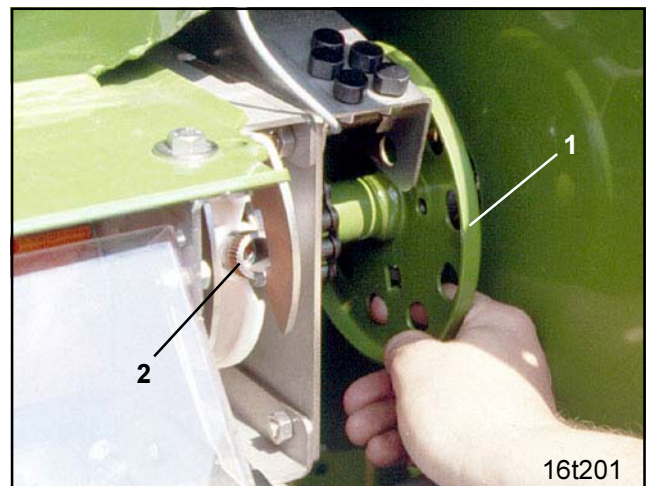

Fig. 11.7
- Turn the hand wheel (Fig. 11.7/1) until the thumb bolts (Fig. 11.7/2) can be seen
- Turn hand wheel (Fig. 11.7/1) until the thumb bolts (Fig. 11.7/2) can be seen